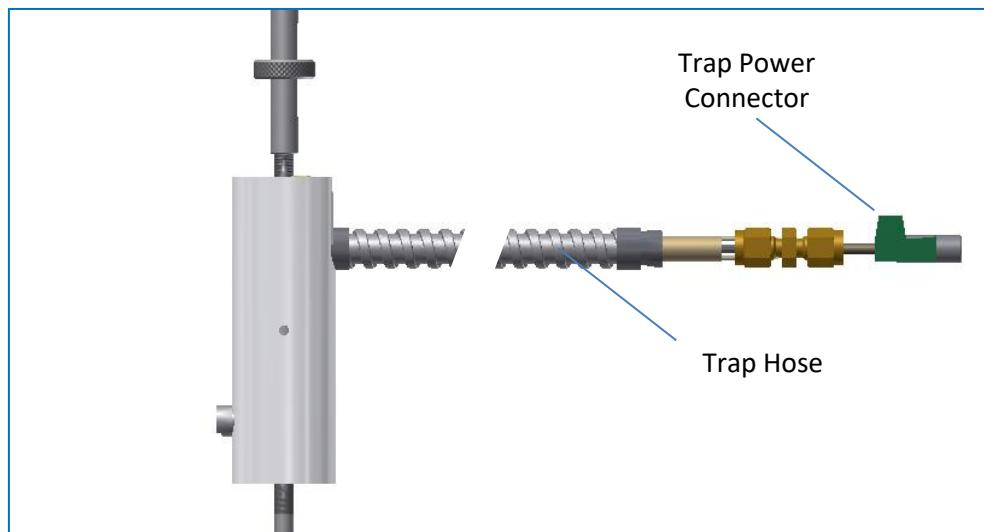

Figure 4.7
The trap can be mounted either vertically or horizontally inside the gas chromatograph oven. To mount the trap, a mounting stand (see Fig. 4.7) is supplied with the trap. Ideally, the trap should be installed in a location that makes it possible to run the trap hose (cooling line/cables) through the existing holes in the inner and outer panels of the GC oven (e.g. holes for a second inlet or a detector). If there are no such holes available, they will need to be made after choosing their locations carefully.
5. Carefully guide the trap hose that includes the coolant inlet tube, the thermocouple and the heater cables (Fig. 4-7) through the holes in the GC oven panels. If needed, remove the green connector from the power cable to facilitate the installation. **Do not forget to mount the connector back when the installation is finished! Tighten the connector screws!**